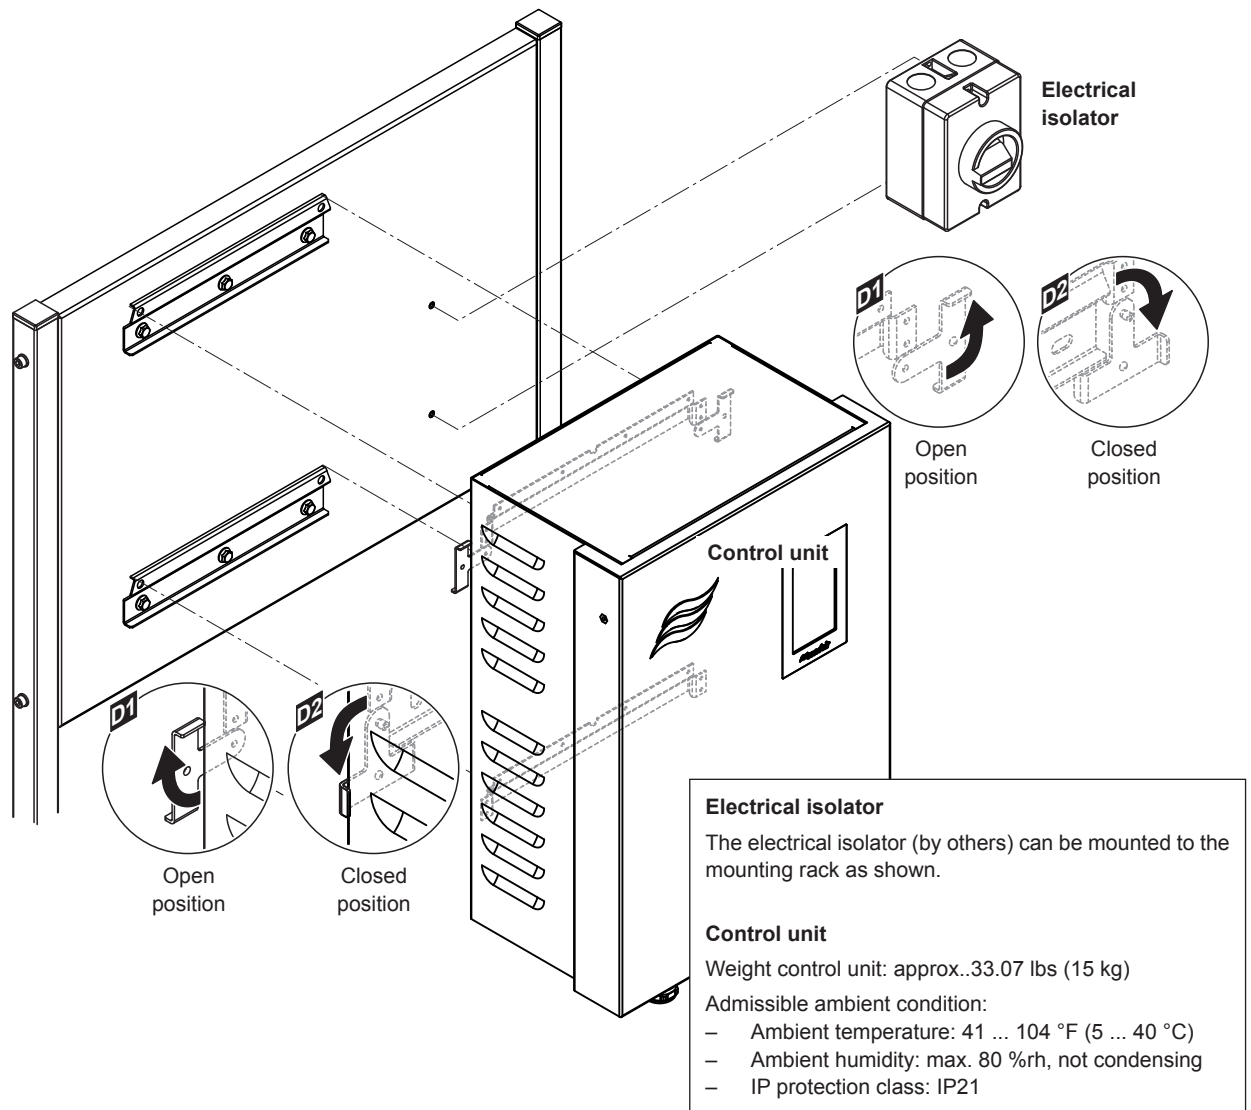

Fig. 42: Mounting the control unit - dimensions in Inch (mm)
1. Move the locking hooks on the back of the control unit to open position (see detail D1 in Fig. 42).
3. Move the locking hooks on the back of the control unit to closed position (see detail D2 in Fig. 42) in order to fix the control unit to the upper wall support.